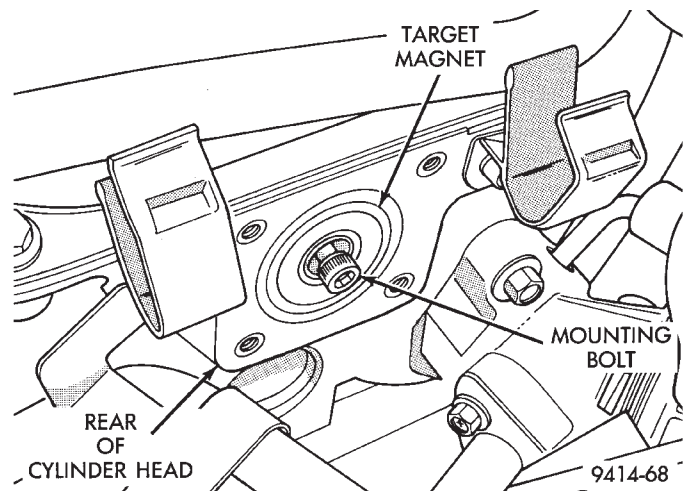

Fig. 28 Target Magnet Removal/Installation
- (1) Disconnect the filtered air tube from the throttle body and air cleaner housing. Remove filtered air tube.
- (2) Remove the air cleaner inlet tube.
- (3) Disconnect electrical connectors from engine coolant sensor and camshaft position sensor.
- (4) Remove brake booster hose and electrical connector from holders on end of cylinder head cover.
- (5) Remove camshaft position sensor mounting screws. Remove sensor.
- (6) Loosen screw attaching target magnet to rear of camshaft (Fig. 28).